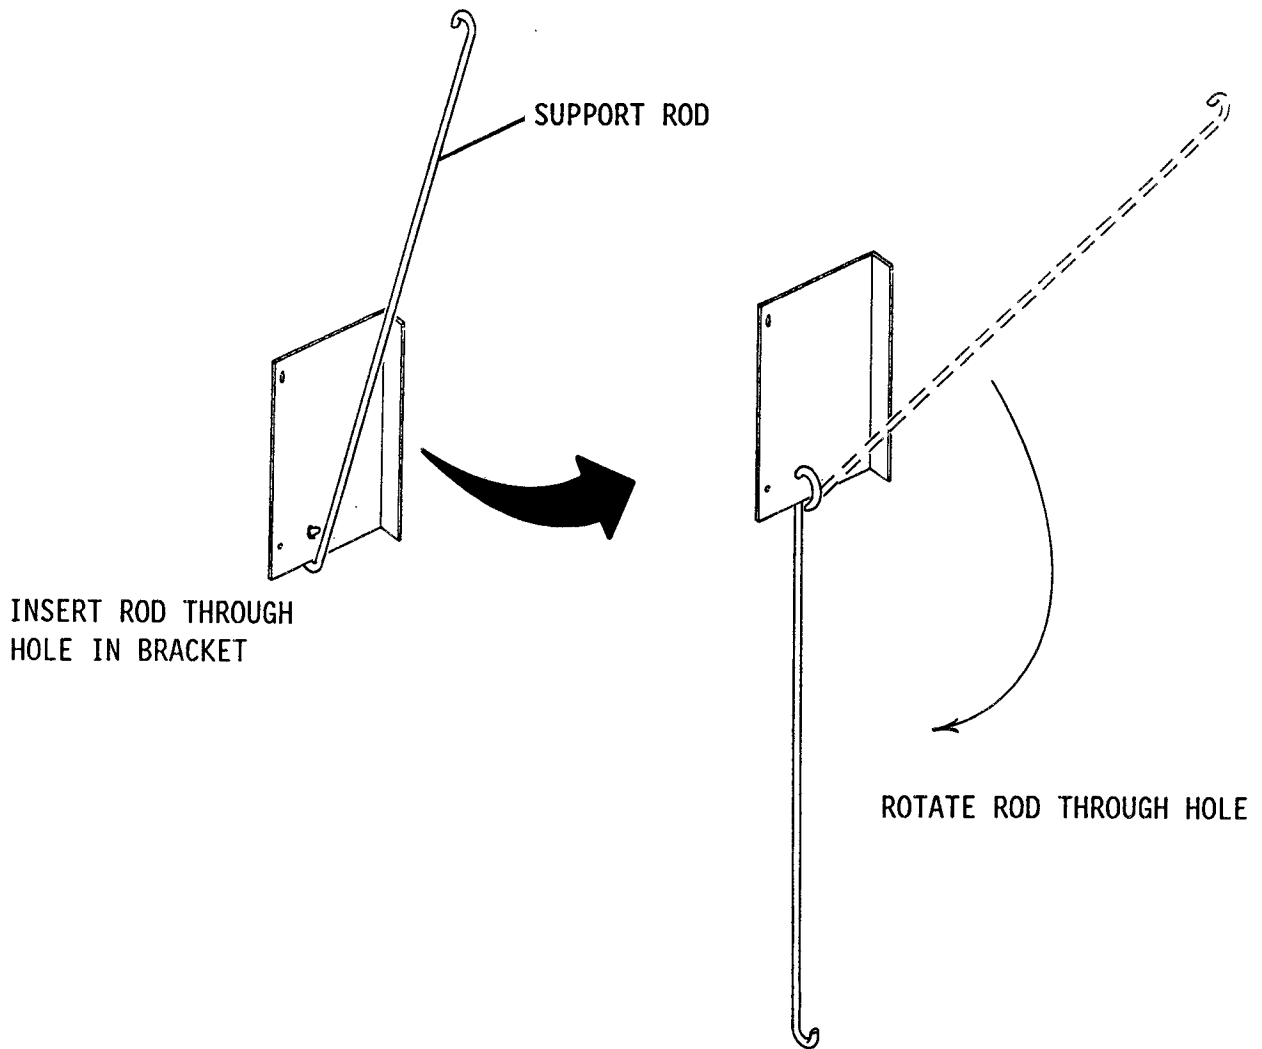

FIGURE 2. Assembling the Support Rod and Rod Bracket
1. Assemble the support rod and bracket as shown in Figure 2.